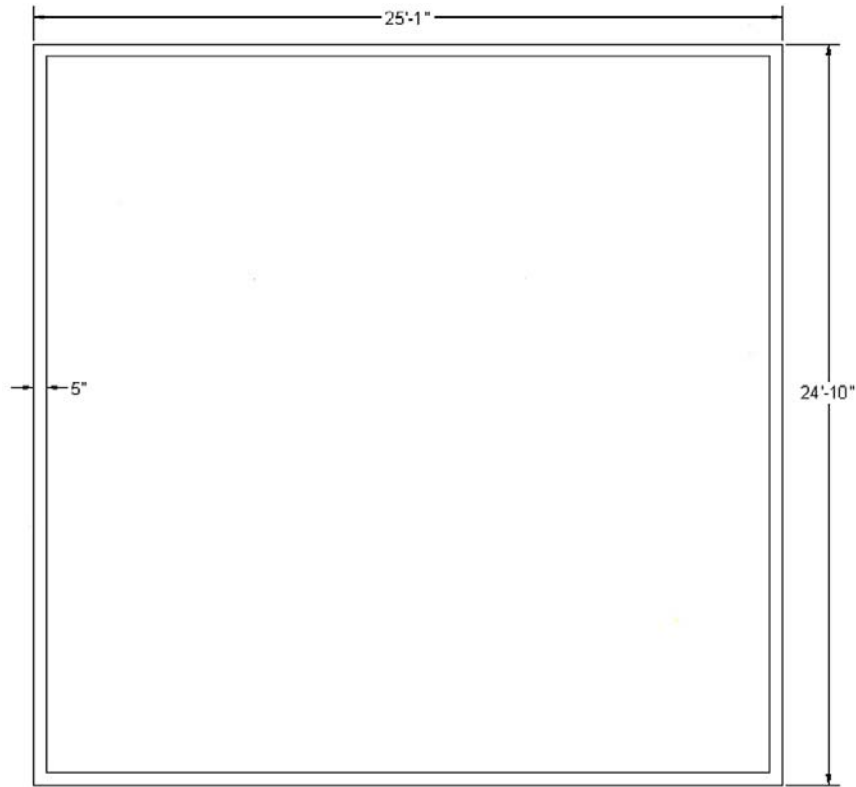

FIGURE 3.12
7. Explode both wall rectangles. This is needed to break apart the rectangles for use as the basis for the interior walls. You should now have a total of eight individual lines, as seen in Figure 3.12.